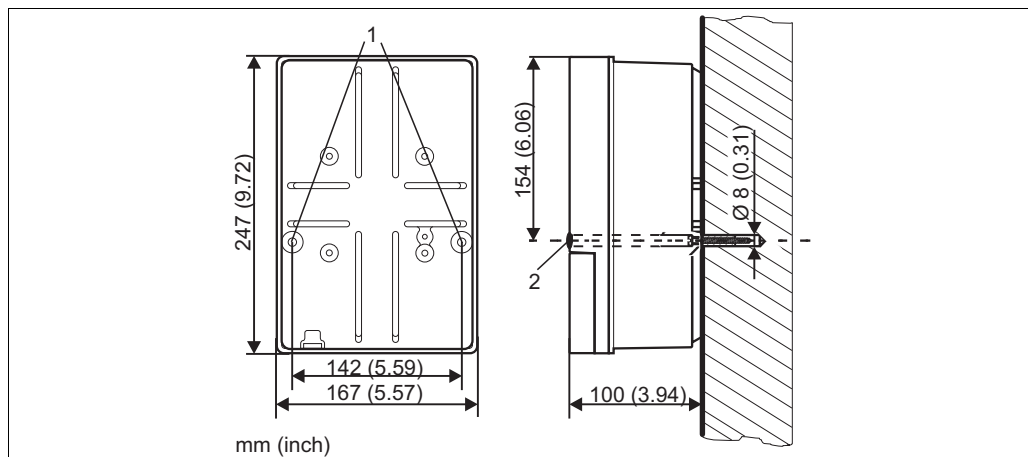

Fig. 8: Dimensions for wall mounting, securing screw: Ø 6 mm (0.24"), wall plug: Ø 8 mm (0.31")
1. Bore the holes as per Fig. 8.
2. Push the two securing screws through the mounting bore holes from the front (item 1).
4. Cover the bore holes with the plastic caps (item 2).